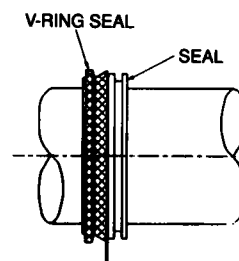

Figure 2a
1. Install a V-ring seal on each seal ring with the lip on V-ring facing the large OD of the seal ring (see Figure 2a).
2. Slide one of the seal assemblies on the shaft to the proper location for assembly into the housing. The lip of the V-ring seal must face the bearing (see Figure 2a).